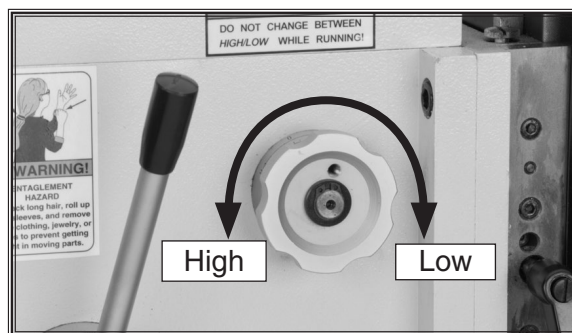

Figure 8. High/Low shift knob.
4. With the spindle at a complete stop, shift the high /low shift knob (Figure 8) into the low range, and set the FWD/REV switch (Figure 9) to FWD.